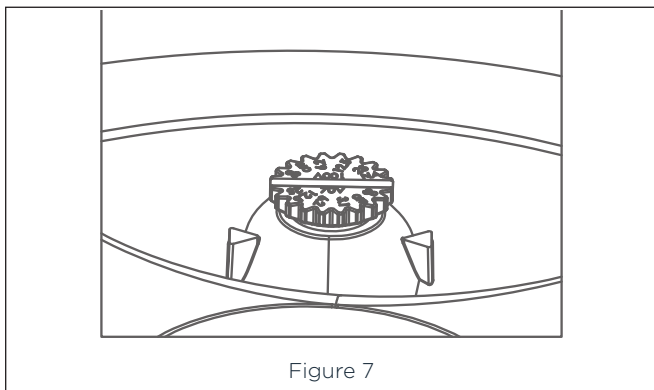

Figure 7
6. At this step in the installation, the transformer tap selector can be set. Depending on your installation, you may wait to set the volume of each speaker until the system is completely installed (see Figure 7).